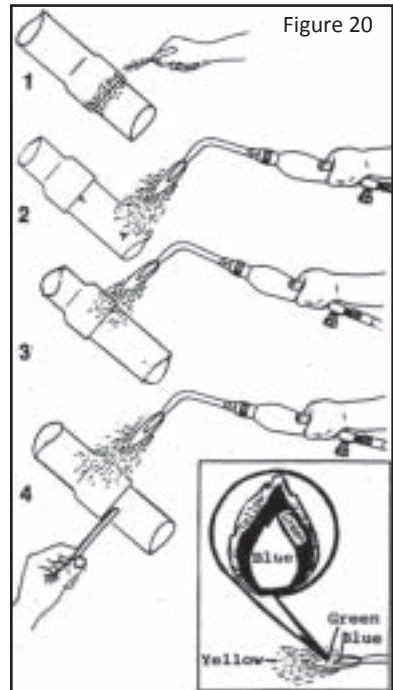

Figure 20
3. Heat the joint evenly with a torch (figs. 20 and 21) using a figure-8 motion. More heat will be needed for larger tubing. Acetylene/oxygen tanks (along with the appropriate lines and tips) can create more heat. The kit is available at refrigeration supply houses. Start heating about one-half inch to one inch away from the joint. Never hold the torch in one spot. Keep it moving until the joint turns cherry red. This color indicates that the joint has reached the temperature at which silver alloy flows, 1,145°F.